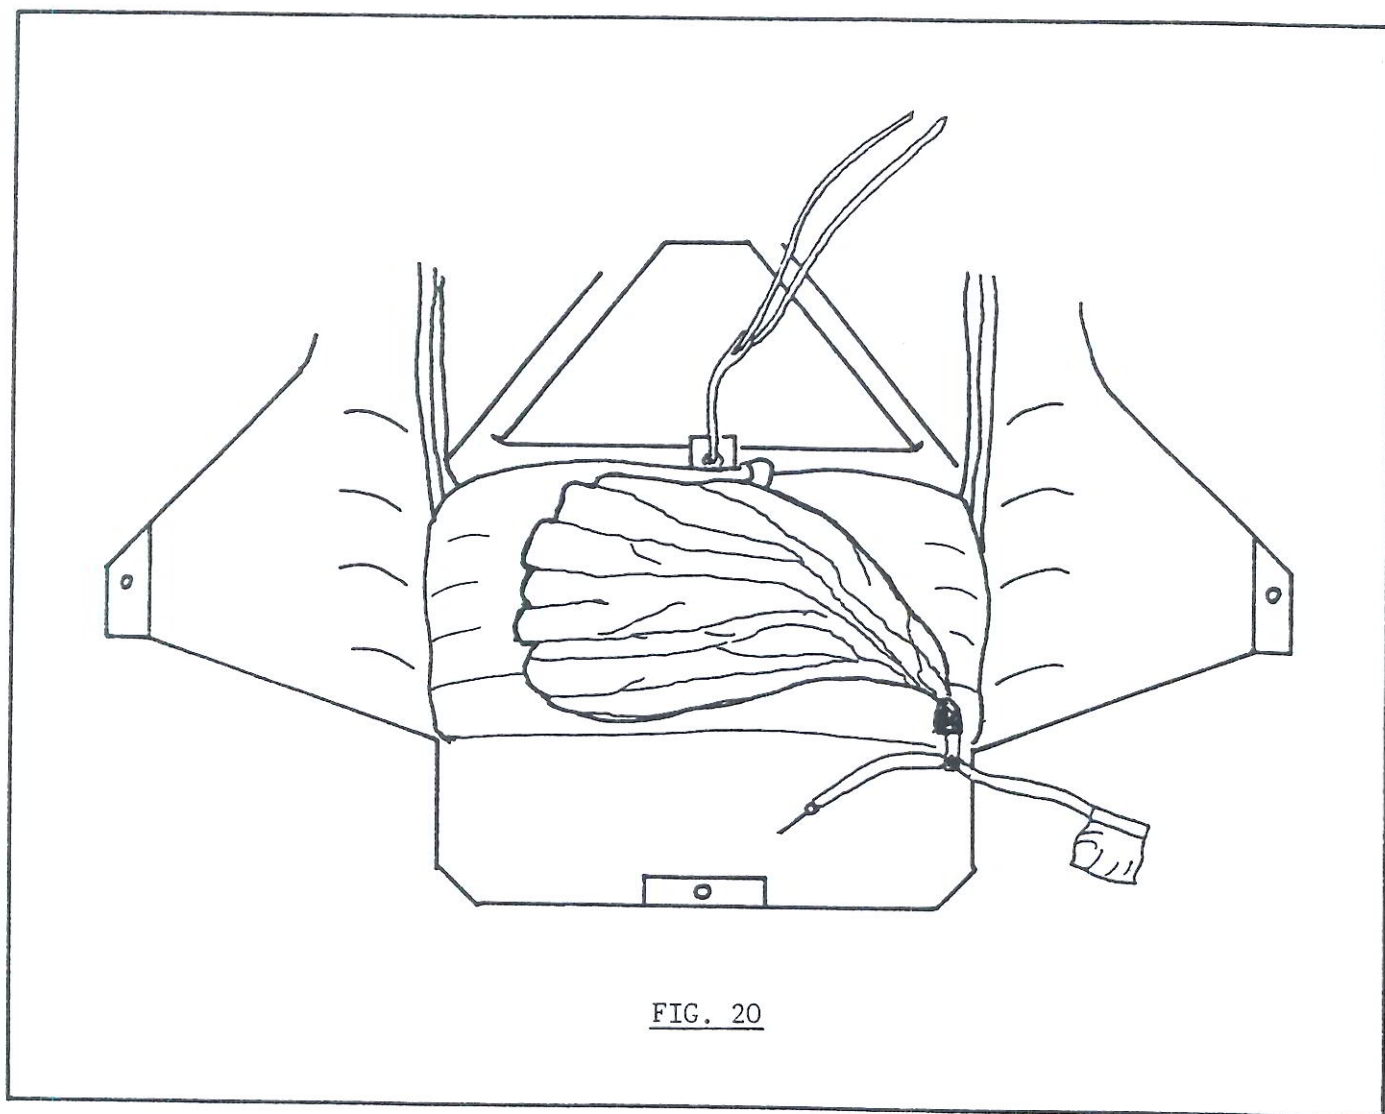

FIG. 20
- 12) Loosely fold the pilot chute and lay it across the bag as shown in FIG. 20. IMPORTANT!!! THE HANDLE AND PIN MUST EXIT THE CONTAINER AT THE LOWER RIGHT SIDE!